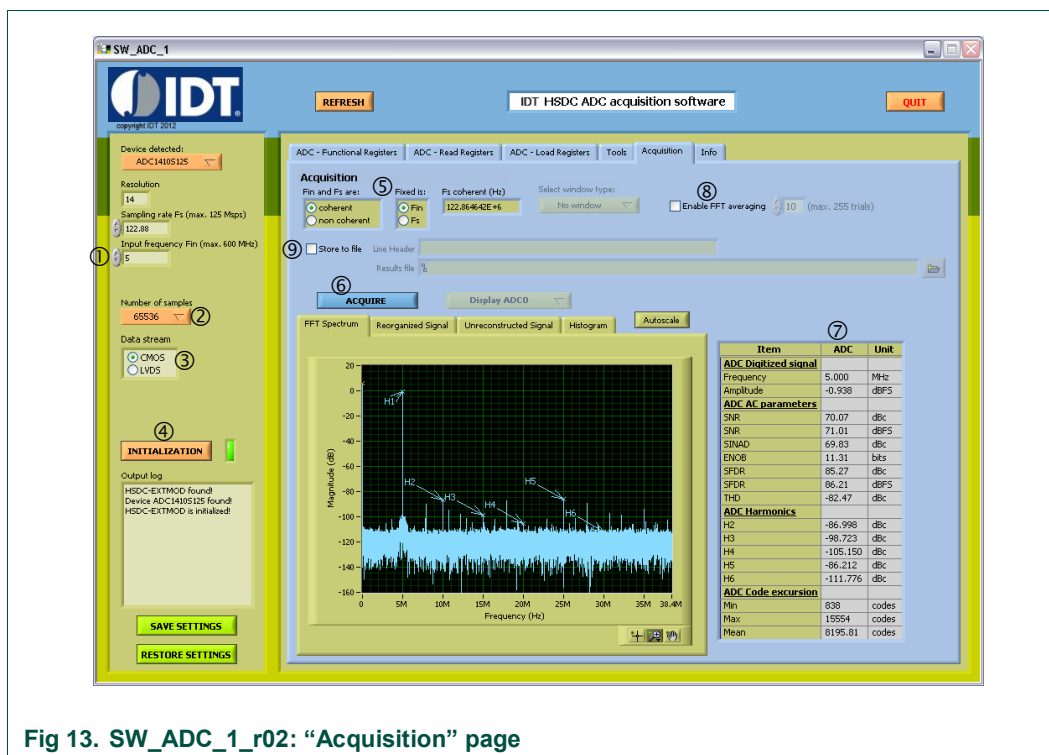

Fig 13. SW_ADC_1_r02: “Acquisition” page
- Browse to select your file (button ①);
- Click on “Load data” button ②.
A message on field ③ and a progress bar will inform about the status of the operation until message “download done!” is seen. The table ④ is updated with the current values downloaded at the fly as can be seen on figure 13.